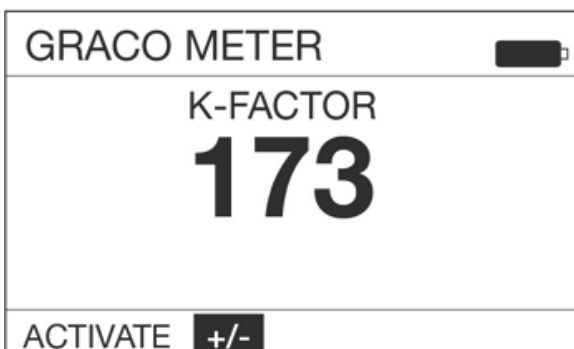

FIG. 27
7. Use the RIGHT ARROW button on the keypad to highlight +/- and press the center ENTER button on the keypad to select the +/- option (FIG. 27).